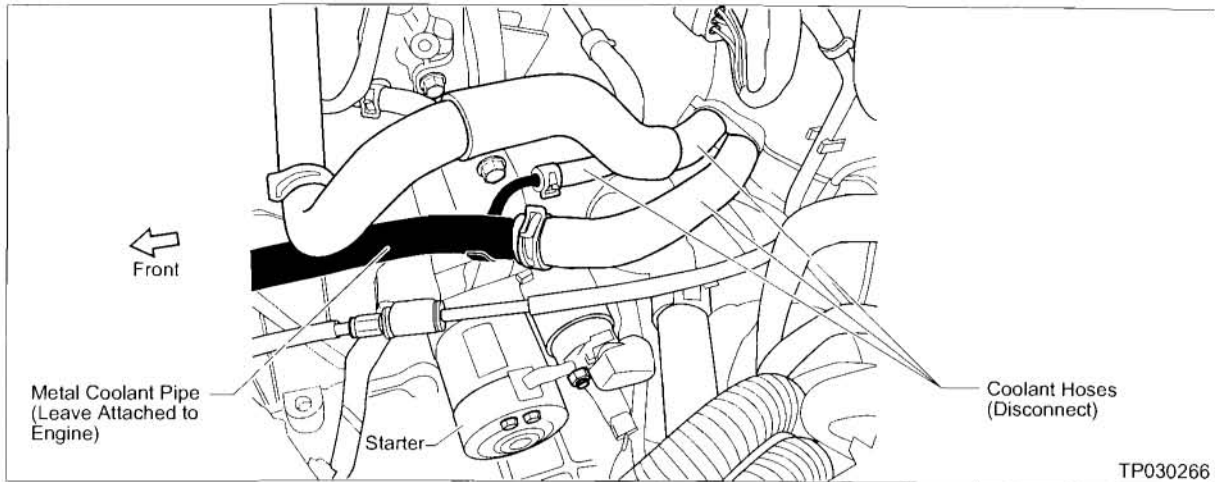

Figure F7
- Disconnect the Coolant Hoses from the Metal Coolant Pipe, but leave the metal pipe on the engine (see Figure F7).